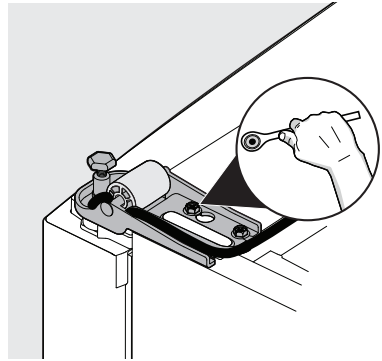

Figure 4
7. Remove the bottom hinge using 5/16" (8mm) wrench (see Figure 4).